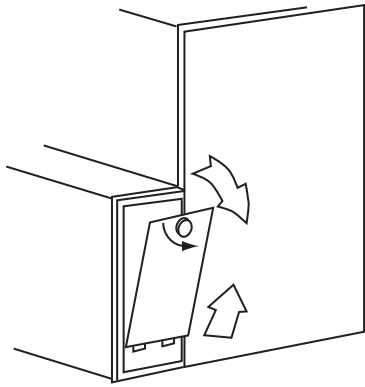
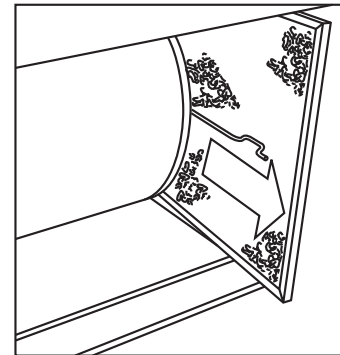

Fig. 23 - Removal of Filter Cabinet Door from Side Blower Cabinet
Fig. 28 - Slide Filter Out of Furnace (Side Inlet)
b. Gently remove air filter and carefully turn the dirty side up (if dirty) to avoid spilling dirt from the filter (See Fig. 28).
• AIR FILTER(S) LOCATED IN FILTER CABINET:
a. Remove filter cabinet door. (See Fig. 23 and 24.)